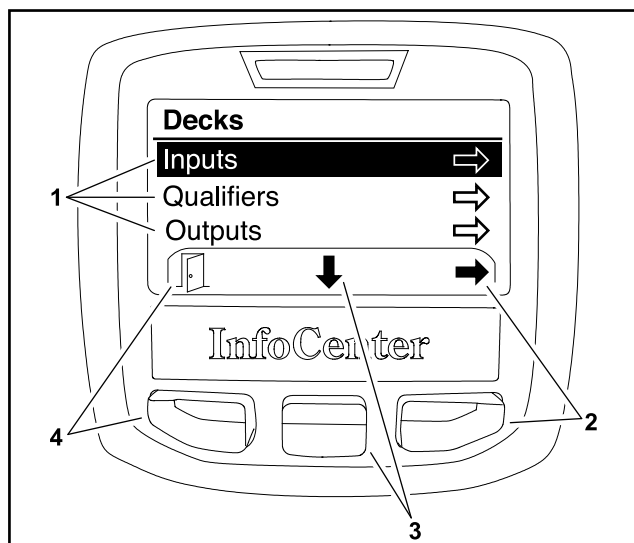

Figure 183
3. Select (highlight) the malfunctioning machine operation and press the left/right button (as indicated by the ➡ at the bottom of the screen). For this example, the Decks operation has been selected (Figure 183).